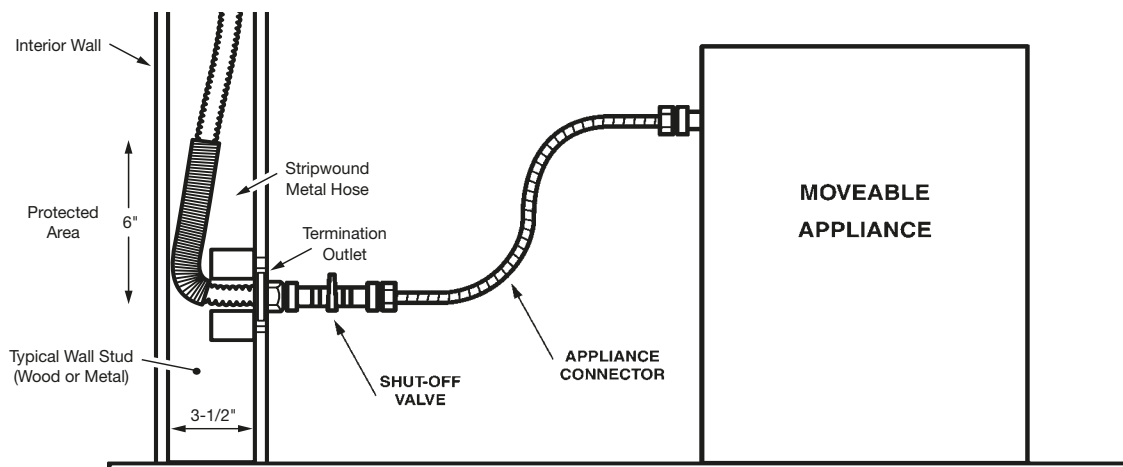

Figure: 4-15 Stainless Steel Gas Connector Connection to a Movable Gas Appliance
1. MOVABLE APPLIANCE CONNECTIONS (SUCH AS RANGES AND DRYERS) SHOULD BE MADE USING APPROVED FLEXIBLE APPLIANCE CONNECTORS. (See Figure: 4-15). See also recessed wall box next page.